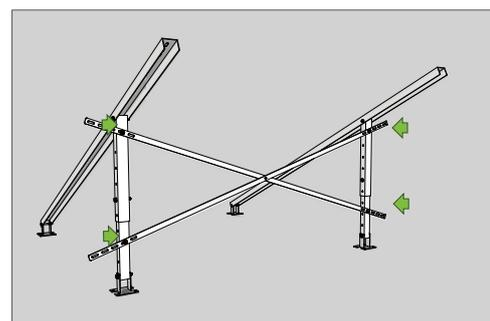

Fig 3
4. Attach double back brace to rear legs using the tek screws provided. See Fig 3